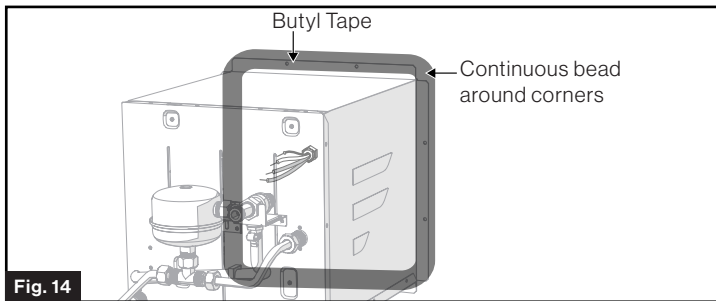

Fig. 14
3. Apply adequate water sealing material, e.g. butyl tape (recommended width: 1", not provided), around the entire backside flange area and holes. (Fig. 14)